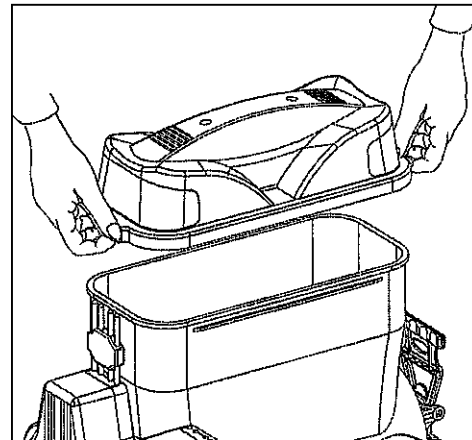

Fig. 11a
6.2 Disassembling of the lid. (Fig. 11a)